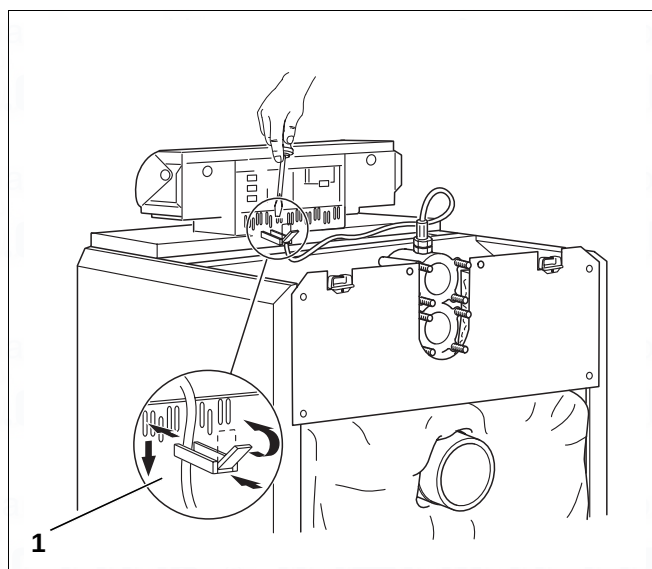

Fig. 47 Fastening the electr. connecting leads
- ▶ Insert cable clips with cable inside into the clip frame and secure by clamping it with the tab (Fig. 47, [1]).